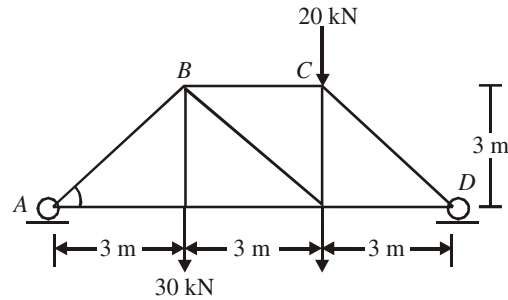

Fig 13.61
Q. 21: Find the forces in members *BC*, *BE*, *FE* of the truss shown in fig 13.61, using method of section. (May-04)